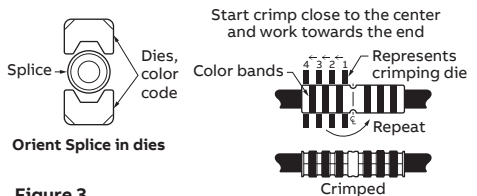

Figure 3
- Table 1 (on reverse side) specifies installing die and the number of compressions required for each die-connector combination. Insert connector in die and compress between markings beginning near the center of the connector and work towards the end, see Figure 3. **CAUTION:** Use of improper installing dies may result in malfunctioning connection.